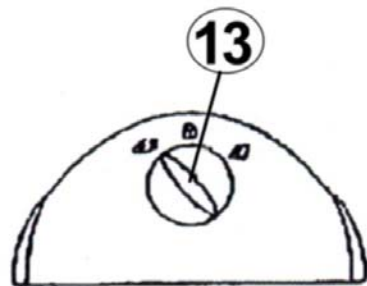

Fig. 6
- Set the 3-position switch (13) to position 13C. (Fig. 6)